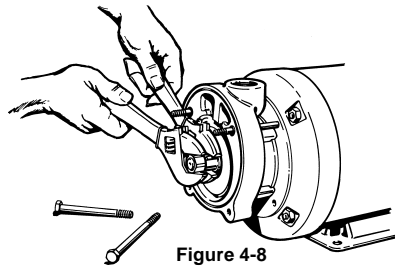

Figure 4-8
- Remove the impeller drive hub, Refer to Figure 4-8. Two (2) adjustable wrenches are used to remove the impeller drive hub (#14).